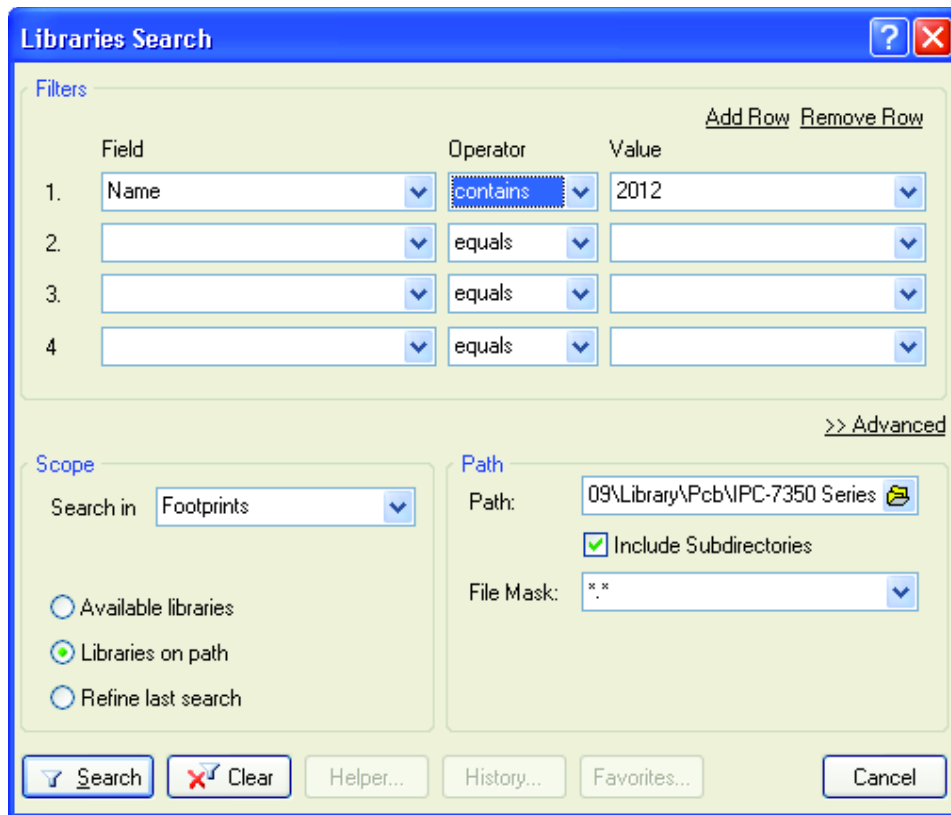

Figure 13. The Libraries Search dialog.
6. In the *Libraries Search* dialog set the Scope to **Libraries on Path**, the path to `C:\Program Files\Altium Designer Summer 09\Library\Pcb\IPC-7350 Series`, and enter the search string `2012`, as shown in Figure 13.